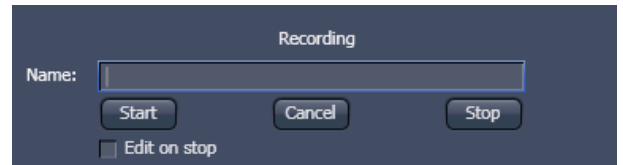

Fig. 7 Recording section
- Enter a name for the macro to be created under **Name** in the **Recording** panel (see Fig. 7).